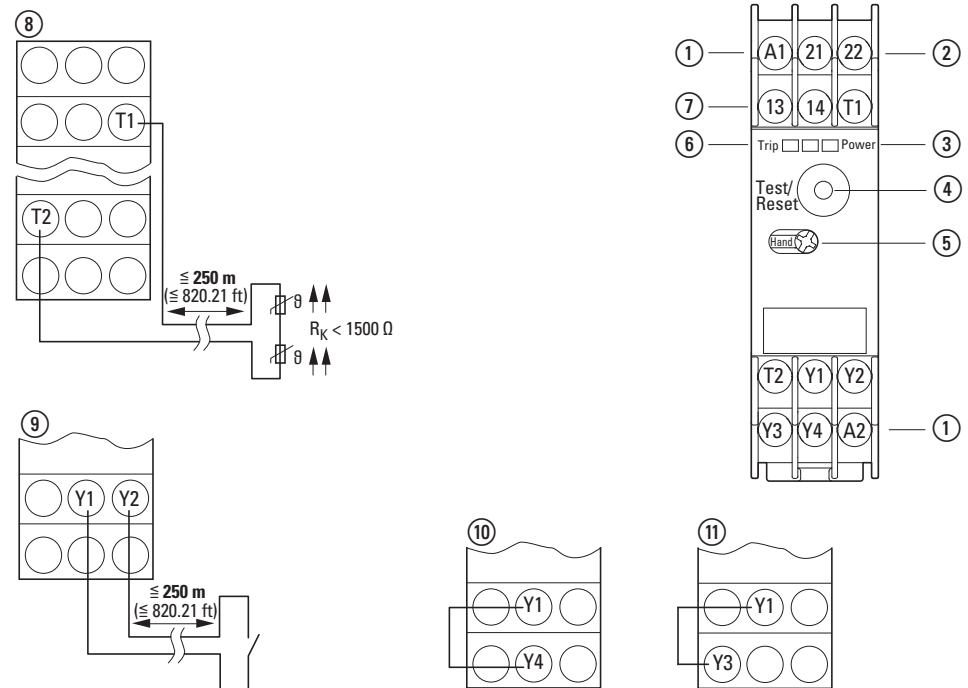

Figure 6: Connection terminals EMT6...
The EMT6, EMT62, EMT6-K and EMT6(230V) devices have a setting fixed to “Automatic reset” mode. The automatic reset can also be selected with the EMT6-DB, EMT6-DB(230V), EMT6-KDB and EMT6-DBK. The selector switch (→ Figure 6, page 43, legend ⑤) is set to AUTO for this purpose.
The selector switch (→ Figure 6, page 43, legend ⑤) is set to “Manual” for this purpose.
- ➔ Zero-voltage protection can be disabled by bridging terminals Y1 and Y4 (➔ Figure 6, page 43).
- ➔ Short-circuit protection can be disabled by bridging terminals Y1 and Y3 (➔ Figure 6, page 43).